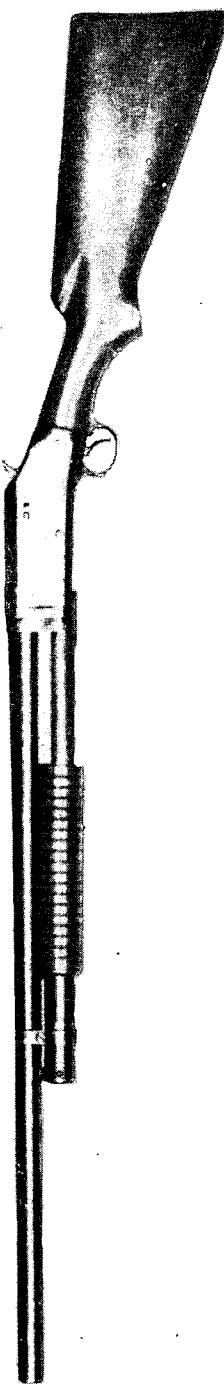

Figure 3—Left Side View—Sporting Trap Type (Take-down)—Winchester Shotgun M97
(2) The sporting skeet-type gun usually comes in the take-down design only and is furnished with a 26-inch plain or ribbed barrel, bored improved cylinder, and is without bayonet attachment or sling.
(3) In the sporting trap-type gun (figs. 3 and 4) is similar to the skeet gun but is made with a 30-inch barrel, bored full choke, and is without bayonet attachment or sling.